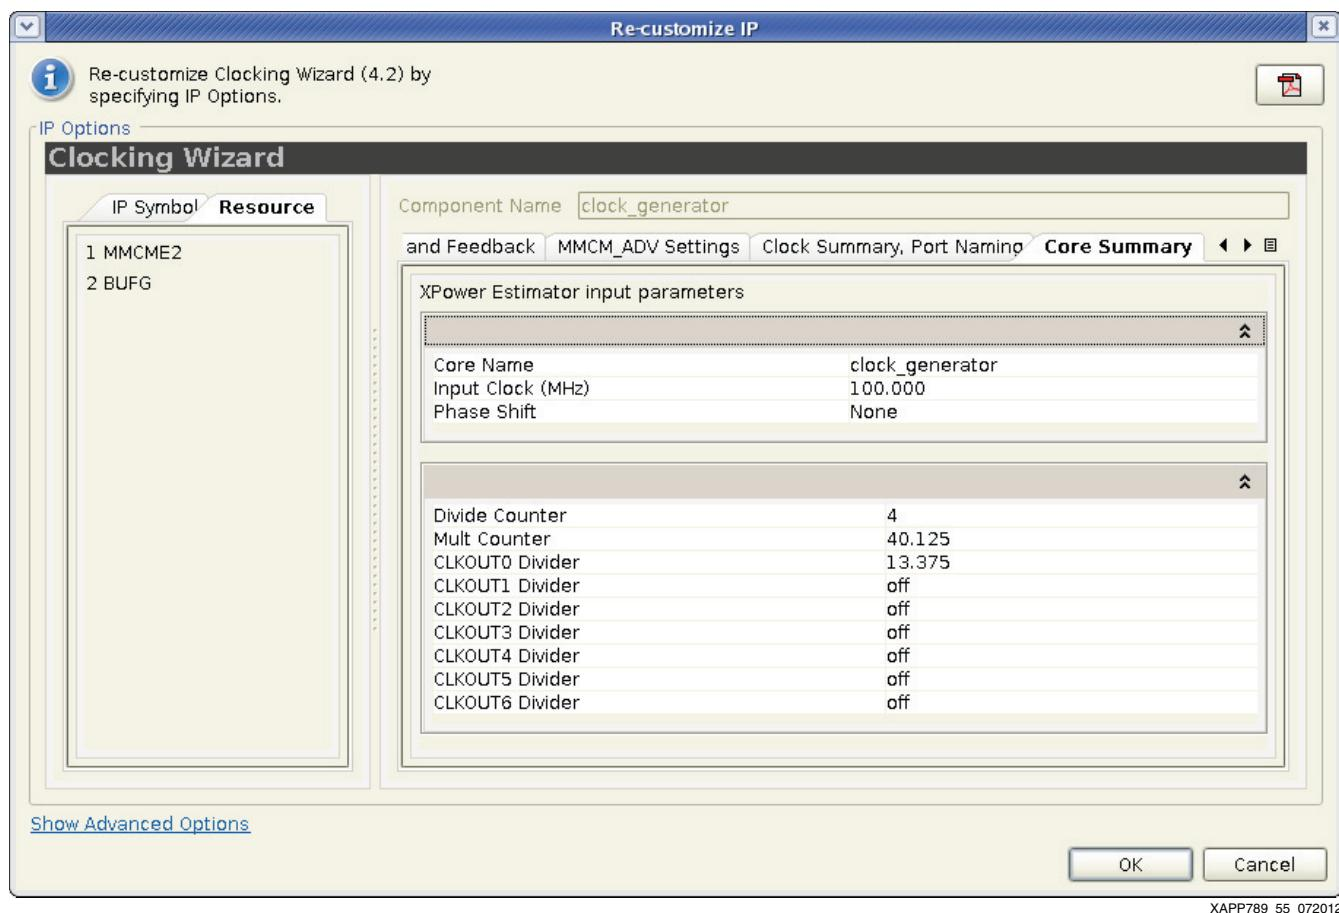

Figure 55: Clocking Wizard Core Summary
46. Click the **Core Summary** tab and review the settings. Click the **Resource** tab on the left to review the resource utilization for this clocking design (Figure 55).